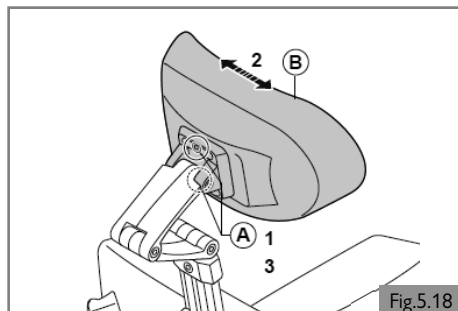

Fig.5.18
**Headrest cushion width (Fig. 5.18)**
1. Loosen (A) by one turn.
2. Adjust (B) to the desired position.
3. Tighten (A). See section 8 for specified torque values.